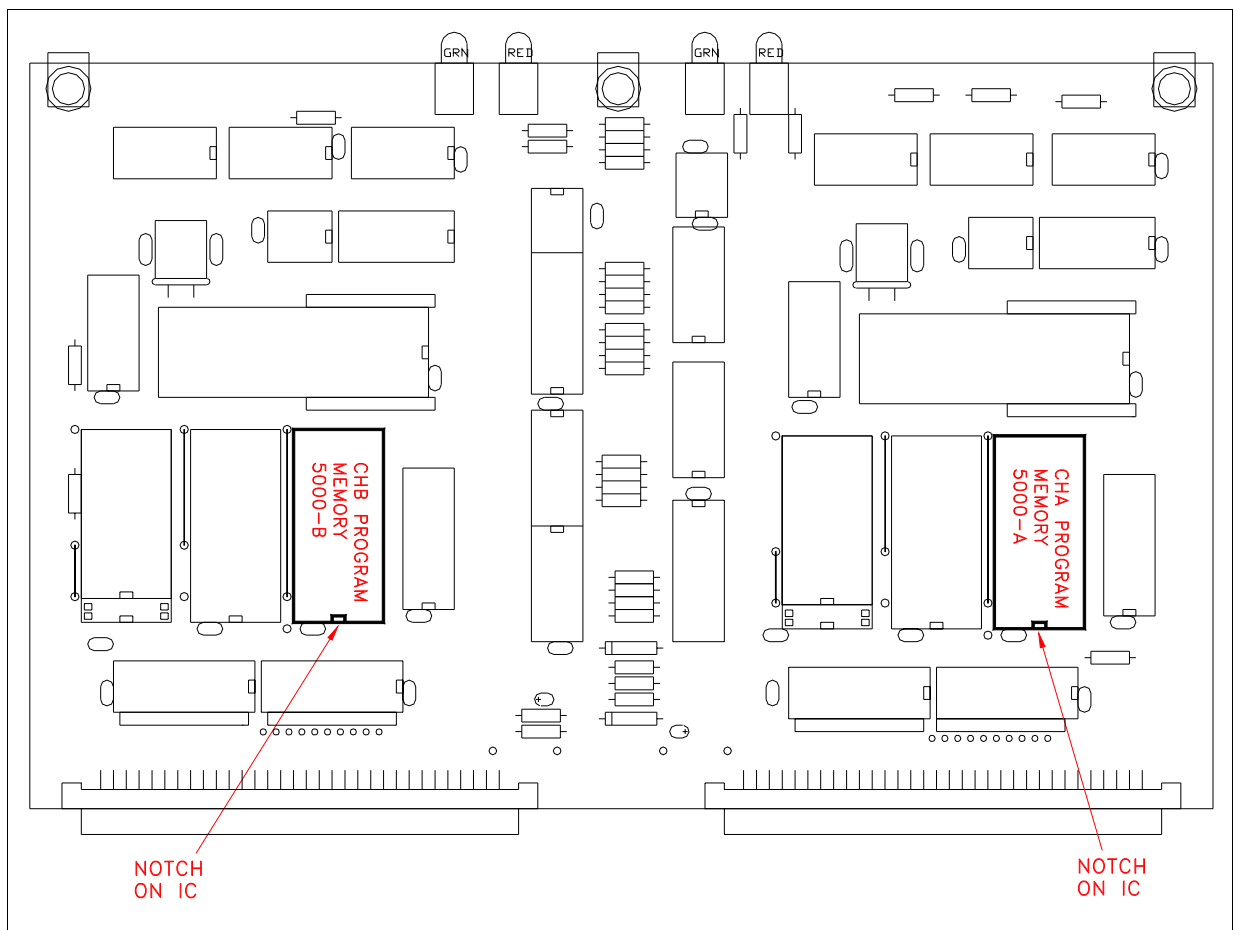

Figure C.1: Logic Module Firmware Chip Locations
- 3) Note the location of the notches on integrated circuits 5000-A and 5000-B. Remove integrated circuits 5000-A and 5000-B. See Figure C.1.
- 4) Insert the new 5000-A and 5000-B integrated circuits. Verify that the notches on the integrated circuits are as shown in Figure C.1.